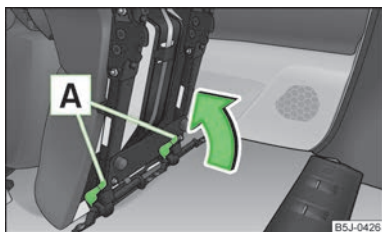

Fig. 42
- Lock the folded forward seat by pressing the seat locks **A** » Fig. 42 in the direction of arrow.
- If the seat is removed, first of all position it on the guide and lock the seat » Fig. 42 on page 51. Pull the seat upwards to ensure that the seat is locked correctly.